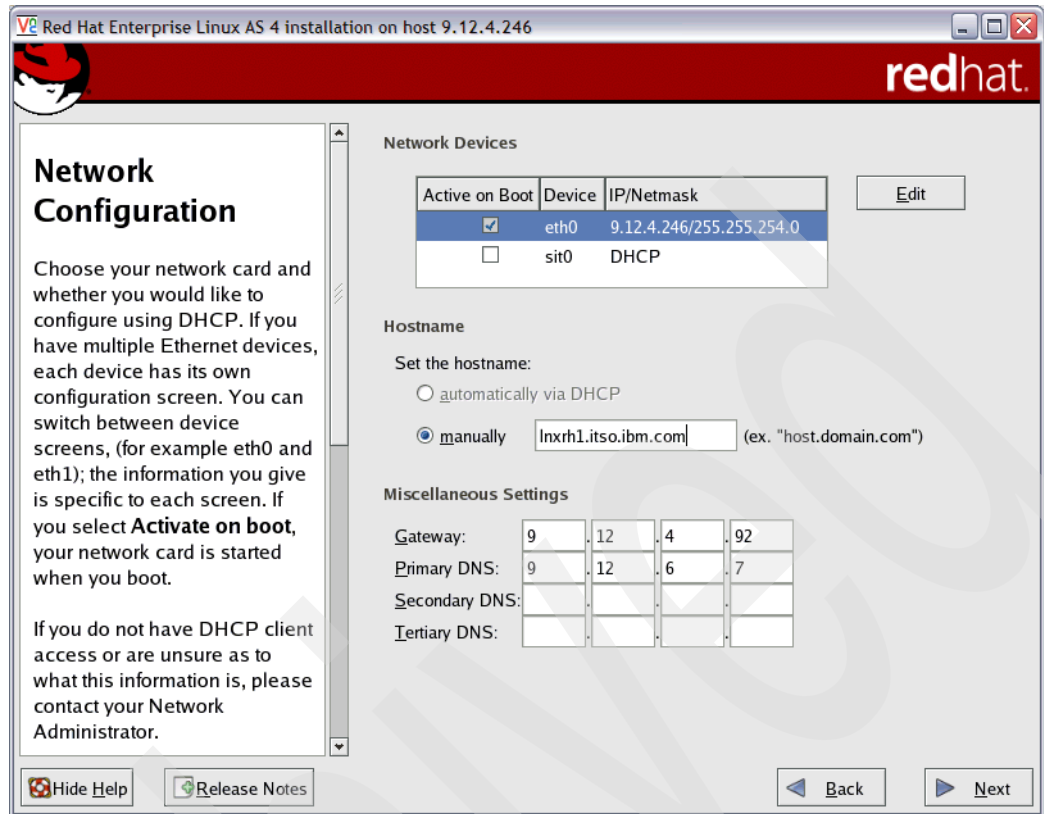

Figure E-8 Network configuration options
- ▶ Next, we updated the network configuration options as shown in Figure E-8 on page 313. Note that all the parameters we previously entered were kept except the hostname, which we had to update again manually.